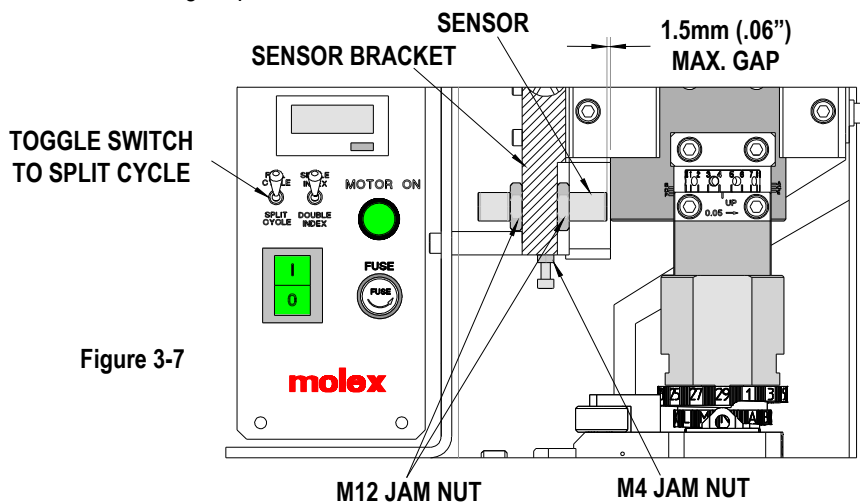

Figure 3-7
4. Loosen the two M12 jam nuts on the split cycle sensor, located on both sides of the sensor bracket. Then loosen the M4 jam nut holding the M4 X 25 socket head screw. Turn the M4 screw clockwise to raise or counter-clockwise to lower. See Figure 3-7. Raise the sensor if the punch is partially crimping the terminal; or lower the sensor if the ram is not closing far enough and not centering the terminal.
5. Tighten the M4 socket head screw and the (2)M12 jam nuts positioning the sensor for the split cycle position. See Figure 3-7.
Note: The gap between the sensor and the ram should be 1.5mm (.06") Max. See Figure 3-7.